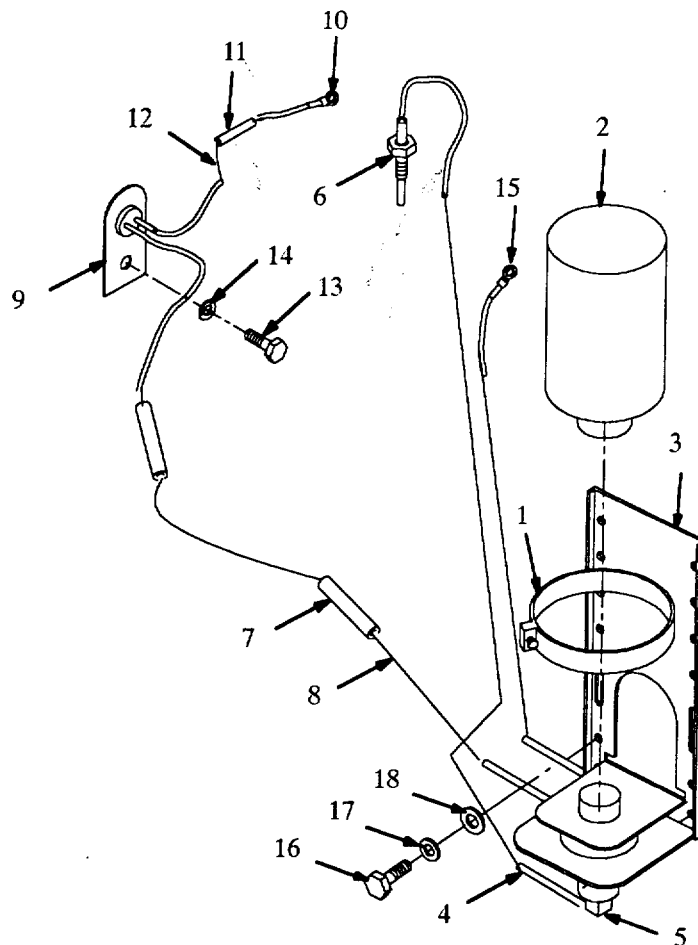

Figure 4-7.1. Starting Aid Solenoid Maintenance (Model 350 PAFN).
**4.10.4.1.1. Removal. (Refer to Figure 4-7.1)****WARNING**
- a. Loosen clamp (1) and remove can of starting fluid (2) from valve assembly(3). Weigh the can of starting fluid to determine serviceability.
- b. Disconnect tubing (4) from blockor (5) to atomizer(6) and remove atomizer from engine manifold.
- c. Cut connectors(7) from wire(8) between temperature switch(9) and valve assembly(3).
- d. Remove terminal ring (10) from starter solenoid and cut connector(11) from wire(12).
- e. Remove screw(13), flat washer(14) and temperature switch(9) from engine.
- f. Remove terminal ring(15) from engine block.
## 4.10.4.1.3. Installation. (Refer to Figure 4-7.1)